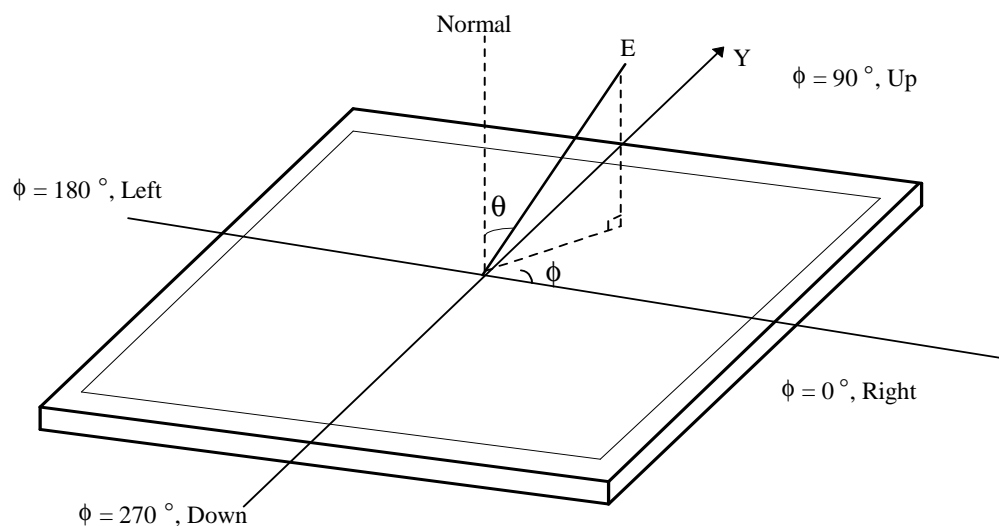

FIG.5 Viewing Angle
6. Viewing angle is the angle at which the contrast ratio is greater than 10. The angles are determined for the horizontal or x axis and the vertical or y axis with respect to the z axis which is normal to the LCD module surface. For more information, see the FIG. 5.